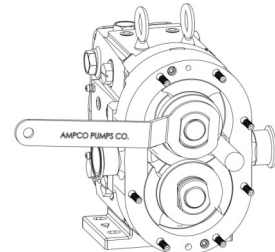

Figure 25: Removing Rotor Jam Nuts
3) Remove the rotor jam nuts using the wrench provided by Q-Pumps (Figure 25). Remove one at a time, by striking wrench with a soft mallet to break loose then turning counter clockwise. The nuts are made of a non-galling alloy to prevent from locking up on the shaft.